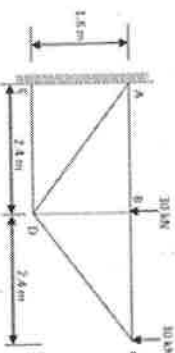

Figure 5
- 9 Find the forces in the members of a truss as shown in Figure 5.